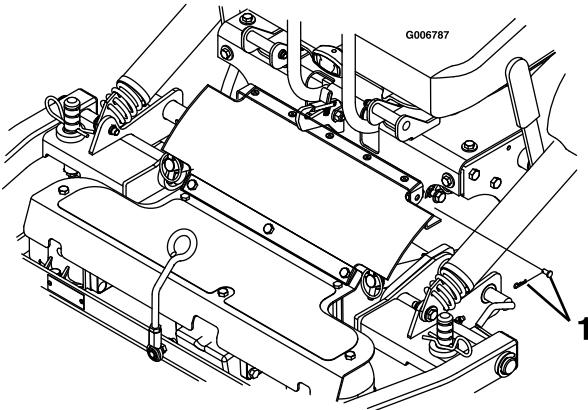

Figure 71
7. Remove the hairpin and clevis from both sides of the PTO guard (Figure 71).
6. Align the upper portion of the rubber PTO guard to the tabs on the front of the console and secure with a clevis pin and hairpin on each side (Figure 71).